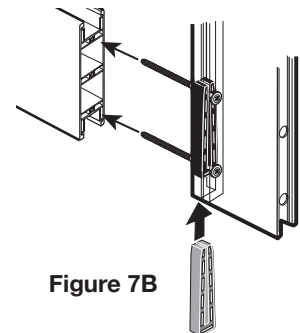

Figure 7B
Slide a reinforcement clip (D) into the channel and over the screw shafts. Place the end of the Bottom rail (C) against the screws, lining up the holes in the extrusion. Make sure the side of the bottom rail with the thinner channel is facing up towards the inside of the door. See Figure 7B.